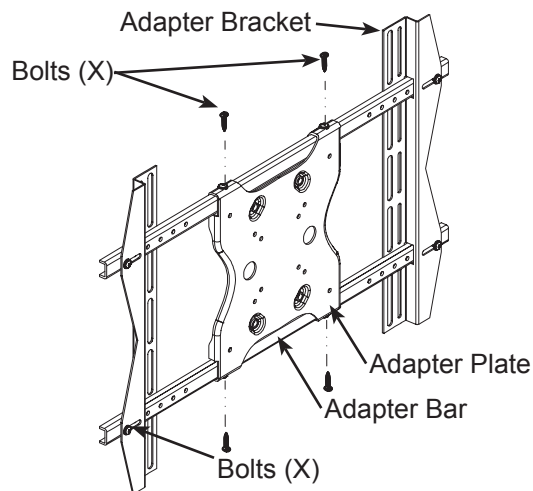

Figure 2
1. Align the holes in the Adapter Bars with the Adapter Plate and secure using four Bolts (X) (Figure 2).